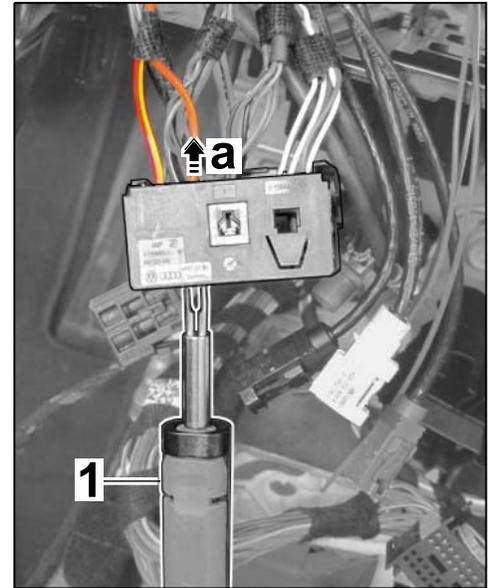

Figure 22
- 5.4.6 Release socket contact using a suitable press-out tool ⇒ *Figure 22 -3-* and press line out of the PCM central connector ⇒ *Figure 22-a-*.